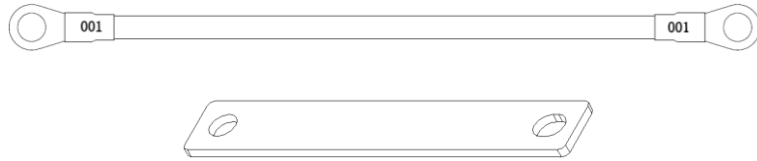

Figure-13 Schematic diagram of the series DC cable/copper bar (picture is for reference only)
1). Take out the matching series DC cable/copper bar as shown in Figure-13 and separate the series DC cables according to the cable labels.